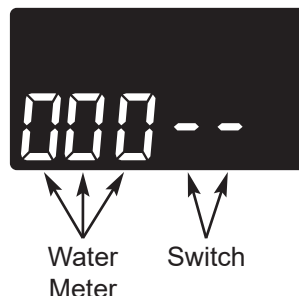

FIG. 60
3. The letter "P" and a dash (or dashes) indicate POSITION switch operation (See Figure 60). If the letter appears, the switch is closed. If the dash shows, the switch is open.